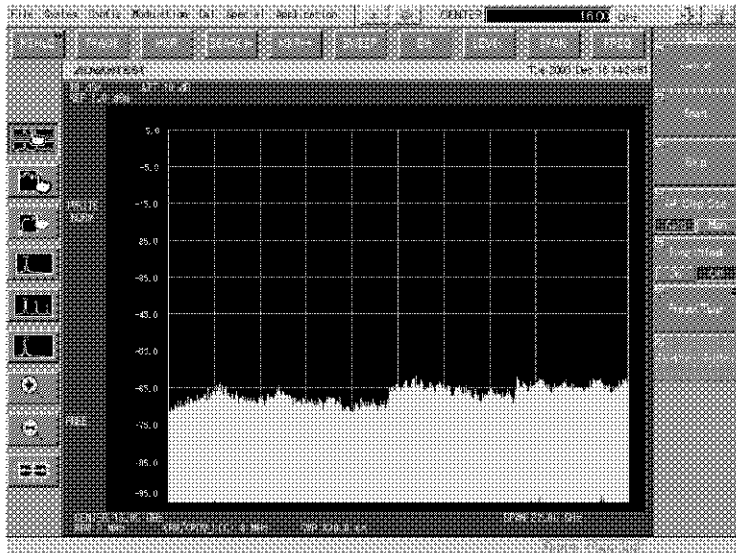

Figure 3-8 Initial Screen
5. The initial screen shown in Figure 3-8 is displayed if no faults are detected in this instrument during the self-diagnostic.
The initial screen display may differ from Figure 3-8 depending on the status of the settings when the power supply was last turned off.